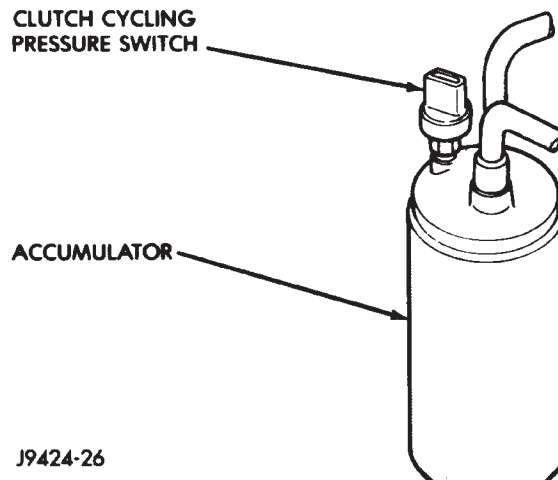

Fig. 8 Low Pressure Cycling Clutch Switch - Typical
- (4) The engine should be at operating temperature. The doors and windows must be open and the hood must be mostly closed.
- (5) Insert a thermometer in the driver side center A/C (panel) outlet. Operate the engine for five minutes.
- (6) The compressor clutch may cycle, depending upon the ambient temperature and humidity. If the clutch cycles, unplug the low pressure cycling clutch switch wire harness connector from the switch located on the accumulator (Fig. 8). Place a jumper wire between the two cavities of the low pressure cycling clutch switch wire harness connector.